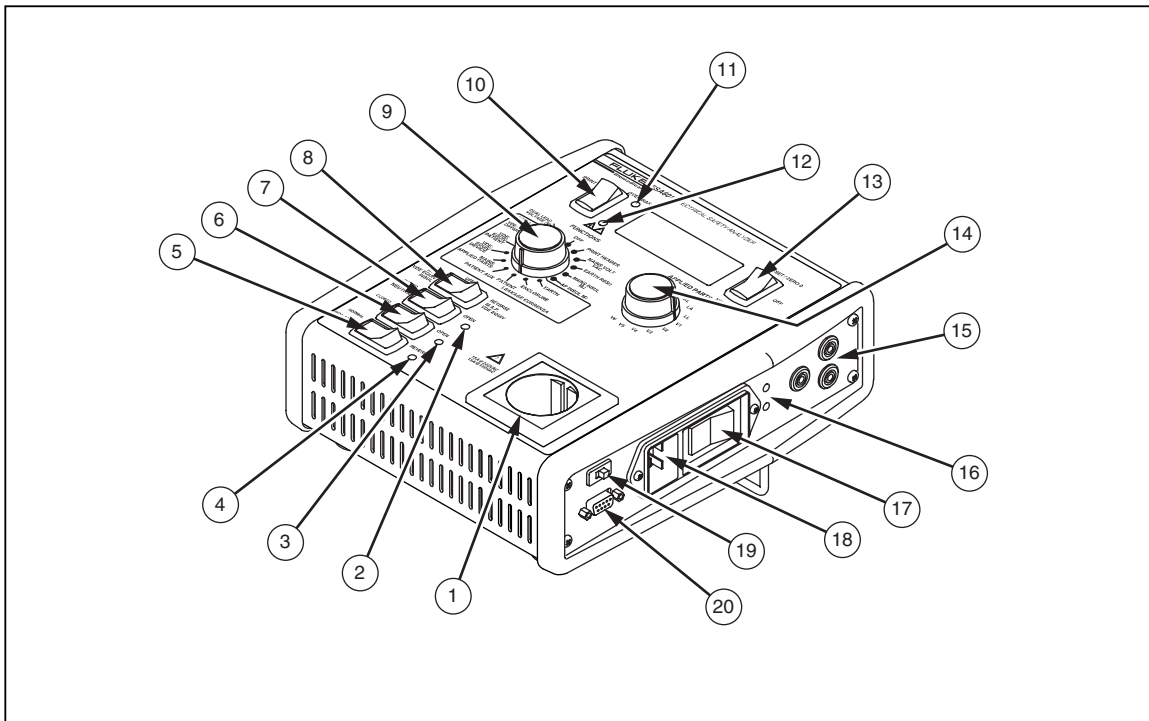

Figure 1-1. Top and Side Panel Views of the ESA601
For the location of the FUNCTION-SELECTION KNOB, the POWER-STATUS INDICATORS, and the POWER SWITCH, referred to Figure 1-1 in Chapter 1 of this manual. Specifically locate items 10, 17, and 18, and the accompanying descriptions of switches and indicators on the unit's right-side and top panels.